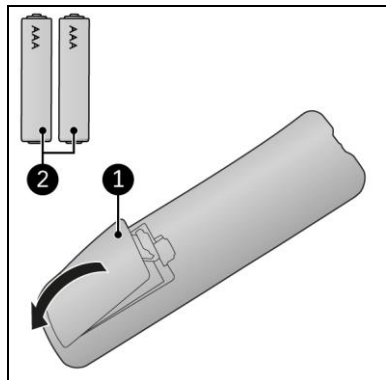

Figure 15
1. Remove the battery cover (Figure 15, pos. 1).
2. Insert two AAA 1.5V batteries (Figure 15, pos. 2) in the battery compartment. Make sure to insert the batteries correctly.